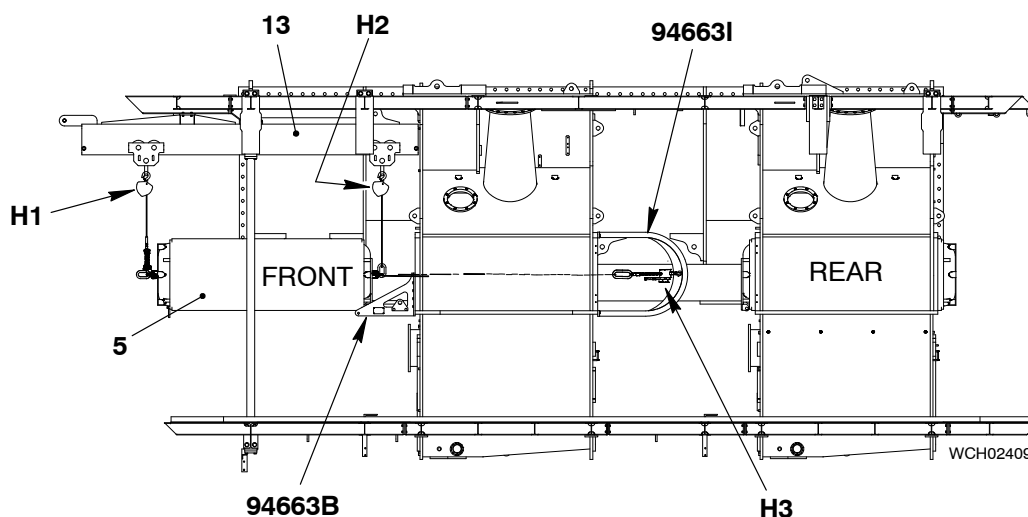

Fig. 20
- 5) Attach the chain blocks (H1, H2) to the trolleys on the rail (13).
- 6) Attach the six swivel lugs to the front and rear of the SAC (5).
- 7) Attach the chain blocks (H1, H2) to the SAC (5).
- 8) Put the SAC (5) in position as shown.
- 9) Operate the chain block (H1, Fig. 20) to lift the front of the SAC (5). At the same time, move the chain block (H2) rearward.
- 10) Continue with step 9) above until the SAC (5) is in a horizontal position. Make sure that the rear of the SAC is on the supports (94663B).